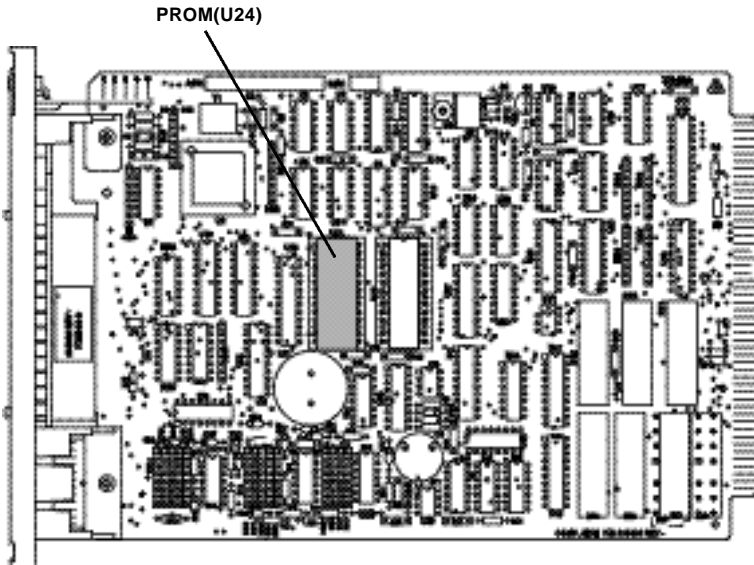

Figure 5-10. PROM chip position on the control/test module.
4. Remove the current PROM chip from position U24 (Figure 5-10) on the control/test module.